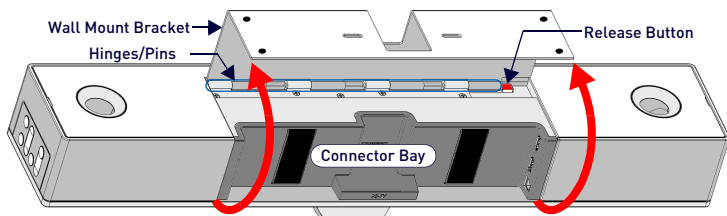

FIG. 2 ACV-5100 BOTTOM VIEW - OPENING THE WALL MOUNT BRACKET
- Press and hold the **Release Button** to slide the Bracket out (over the button) to disengage the pins on the Bracket from the hinges on the unit (FIG. 2).
3. Connect cables as necessary (inside the Connector Bay - see FIG. 2).